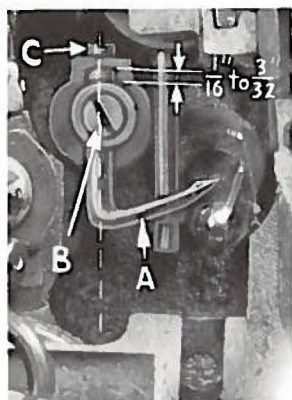

Fig. 7A
Insert upper looper (A, Fig. 7A) in its holder. Screw (B) holds upper looper in its holder, and permits it to be pushed in or out or turned around its shank. Insert upper looper holder into upper looper shaft, if it is not already in place. Screw (C, Fig. 7A) on clamp collar holds upper looper in the shaft, and allows holder to be rotated or adjusted laterally. When upper looper is at the right end of its stroke, upper looper holder should be set to position upper looper shank back of vertical (Fig. 7A). Top end of upper looper shank should extend  $\frac{1}{16}$  to  $\frac{3}{32}$  inch above the upper looper holder (Fig. 7A). Be sure there is clearance between heel of looper and casting.
Now check setting between upper looper and needle. If needle rubs the back of upper looper, pull looper out of its holder slightly and rotate looper a short distance counterclockwise looking from left end of machine. Reset to maintain dimensions of Figs. 7A, 8A and 9A.